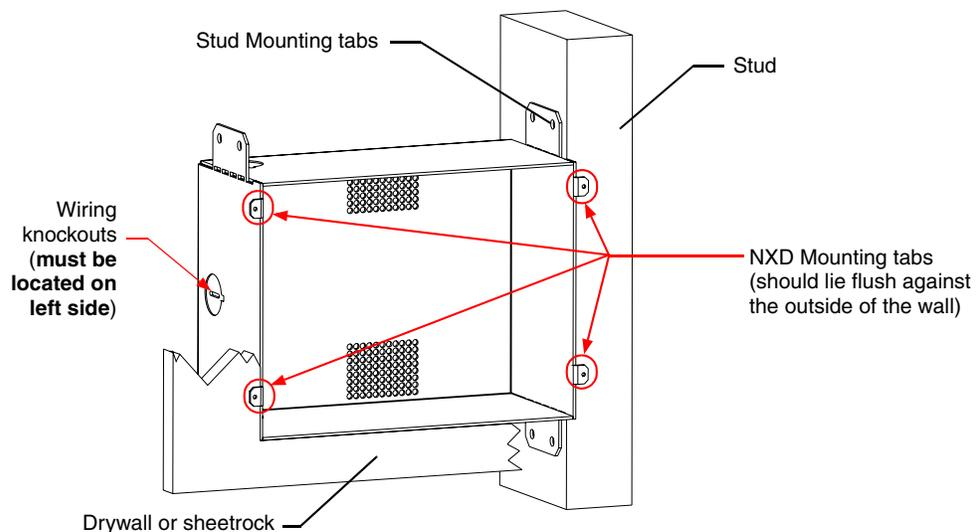

FIG. 34 CB-TP7 conduit box components
The CB-TP7 is an optional metallic box that is secured onto a beam in a **pre-wall** setting (*where no walls are present*). Installation procedures and configurations can vary depending on the installation environment. This section describes the installation procedures for the most common installation scenario. The most important thing to remember when mounting this conduit box is that the NXD-CV7 Mounting Tabs must lie flush against the outside of the sheetrock (FIG. 34).
2. Fasten the CB-TP7 conduit box to the stud through the holes on the right Stud Mounting tabs (FIG. 34), using either nails or screws.
- Remove the wiring knockouts from the left side of the conduit box (CB-TP7) (FIG. 34) to accommodate the cables being threaded through to the NXD touch panel.